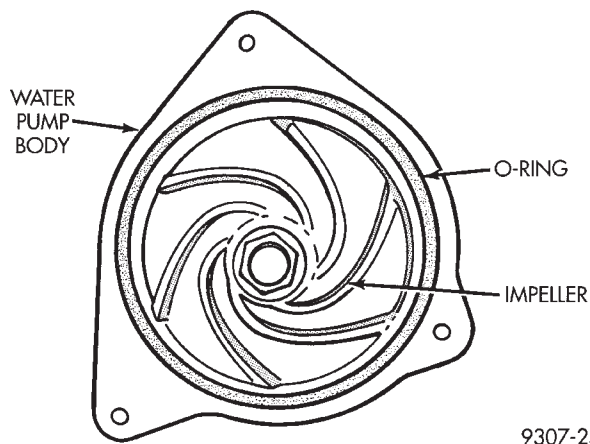

Fig. 20 Water Pump Body—3.5L Engine
(1) Clean all O-ring surfaces on pump and cover.
(2) Install new O-ring on water pump (Fig. 20). Wet the O-ring with water to facilitate assembly.